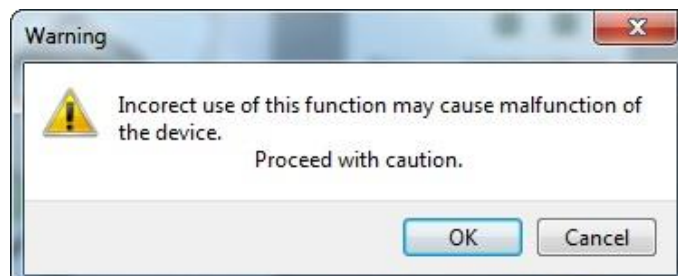

Fig. 19 Warning.
- Select: **OK** to start update (Fig. 19)